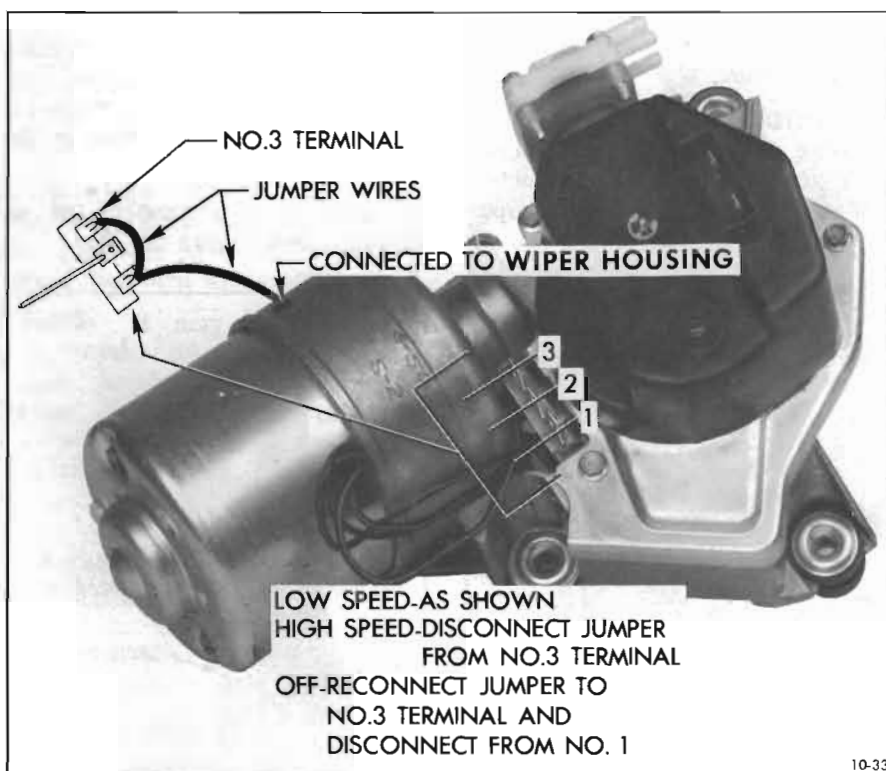

Figure 10-33—Connections to Operate Wiper Independent of Dash Switch
2. Checking Wiper Operation. Operate wiper independently of the car wiring or dash switch, as shown in Figure 10-33. Check low and high speeds and if wiper shuts off correctly.